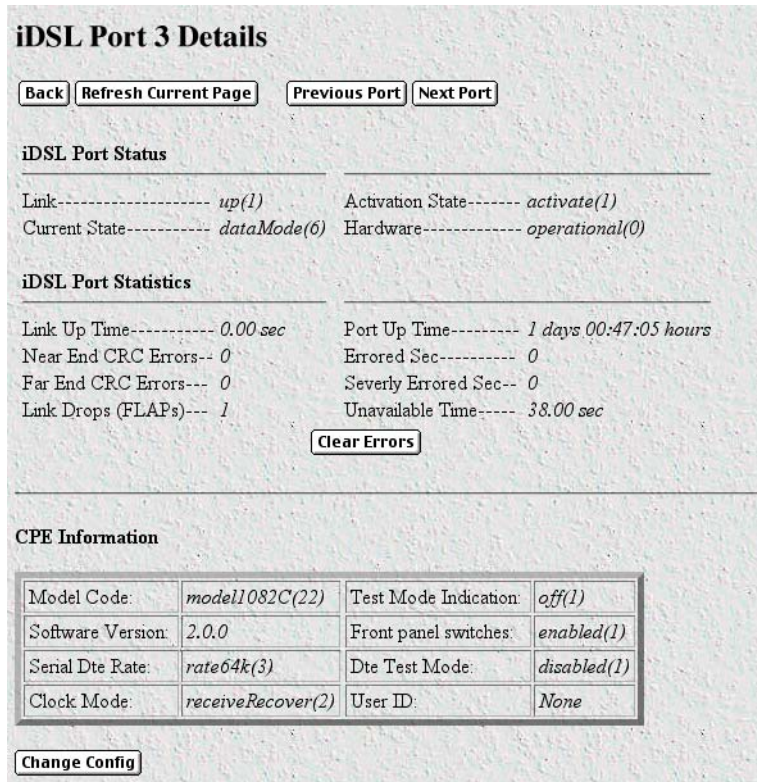

Figure 31. iDSL Port 1 Details page
- On the Configuration/information pane, click on the number 3 under the column titled *Port #* to open the **iDSL Port 3 Details** page (see figure 31).